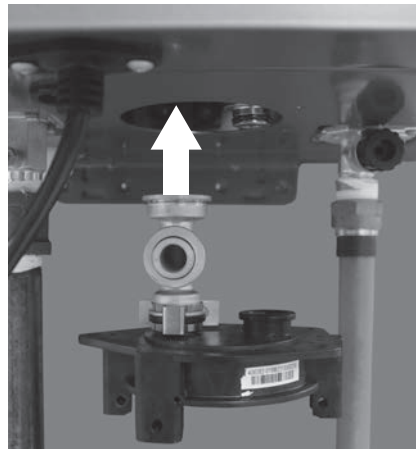

Figure 251 - Orient cartridge manifold and outlet tee
**21** Orient cartridge manifold and outlet tee assembly as shown in Figure 251. Install assembly from under the water heater cabinet. Connect the outlet tee to the burner inlet tube and secure with the spring clip (size 30) previously removed in **Step 13**. This will help keep the manifold in place when installing screws.